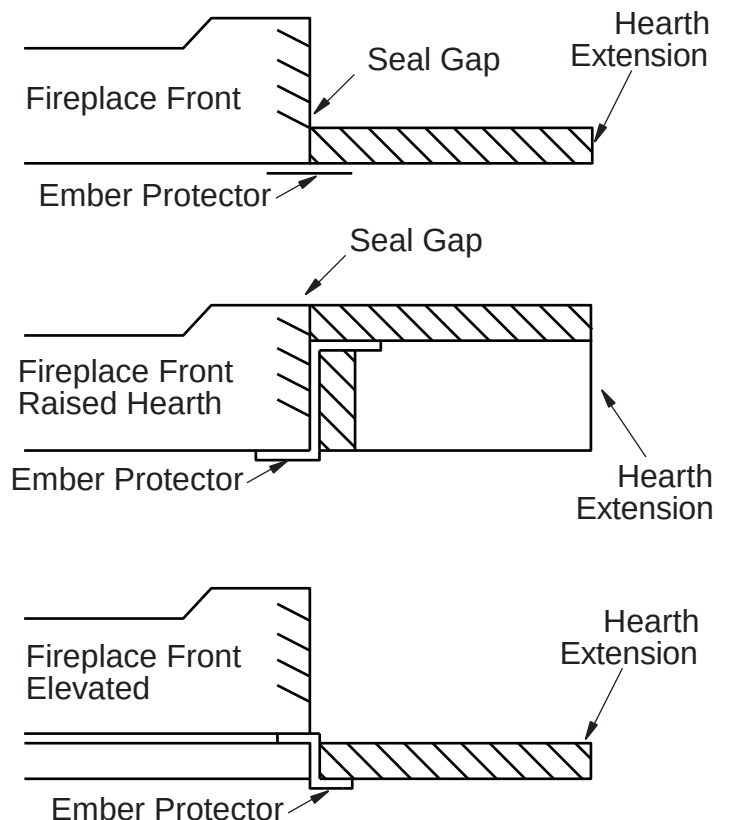

Figure 10 - Hearth Extension
**NOTE:** It is required that ember protector strips must be laid on the fiber of the non-combustible raised platform (see Figure 10). These are included with the Metal Base accessory.
**⚠ WARNING: Hearth extension is to be installed only as shown in Figure 10.**